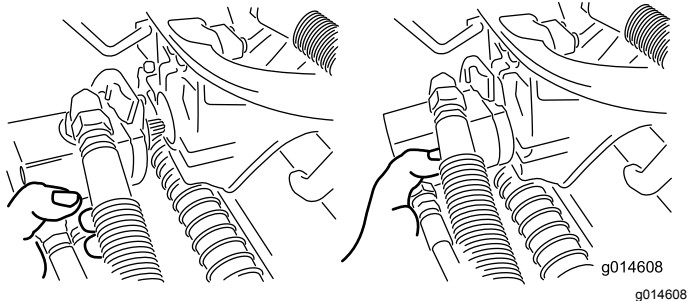

Figure 46
3. Move the motor to the storage location on the front of the suspension arm (Figure 46).